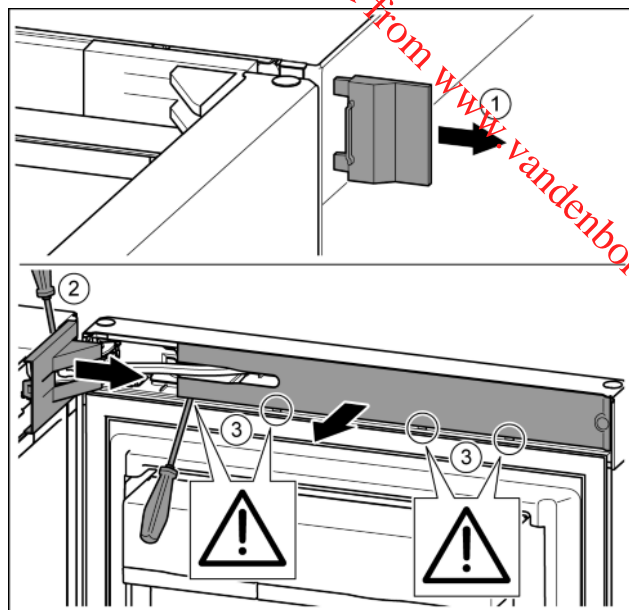

Fig. 10
- Remove the outer cover. Fig. 10 (1)
- Unlatch and undo the bearing bracket cover with a screwdriver. Remove the bearing bracket cover. Fig. 10 (2)
- Unlatch the cover plate with a slotted screwdriver and swivel it to one side. Fig. 10 (3)